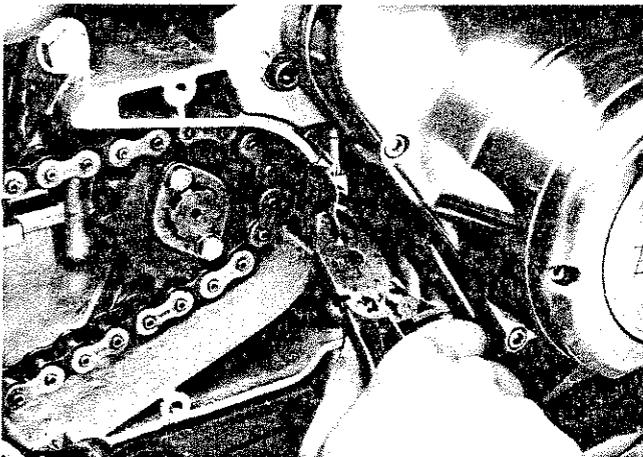

Fig. 131
- 5) Remove the sheet plate and undo the two bolts. Remove the housing of the rod operating plunger (Figs. 131 and 132).